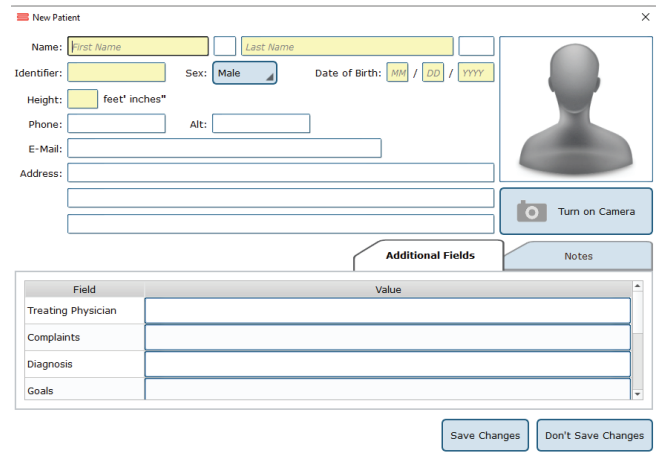

Figure 14: The New Patient Window.
2. After clicking, a popup window will appear with empty patient information fields. The popup window is illustrated in Figure 14.